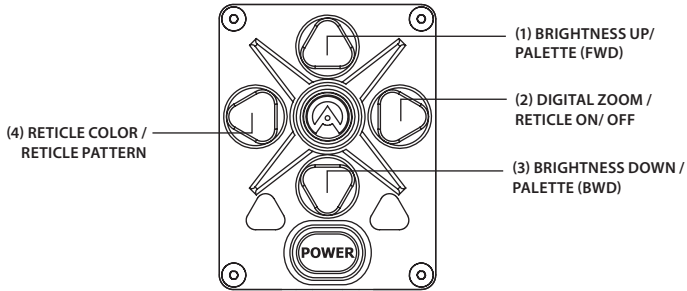

FIGURE 3-25. SETTING BUTTONS
8. Using the buttons on the control panel (Figure 3-25), configure the Zeus PRO to adapt it to your situation.